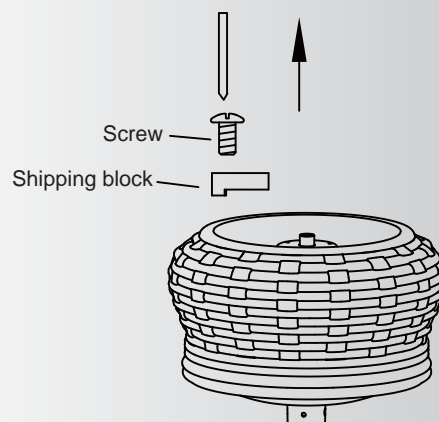

Fig. 5
Step 1. Remove the fan motor and housing assembly from the protective plastic bag and take the lower styrofoam packing pad out of the carton. Place the styrofoam pad on the floor. Then place the fan assembly into the styrofoam pad with the bottom of the motor facing up. (The styrofoam pad serves as a holder for the fan during the first stages of assembly). Remove the plastic motor shipping blocks and discard. (Fig. 5)